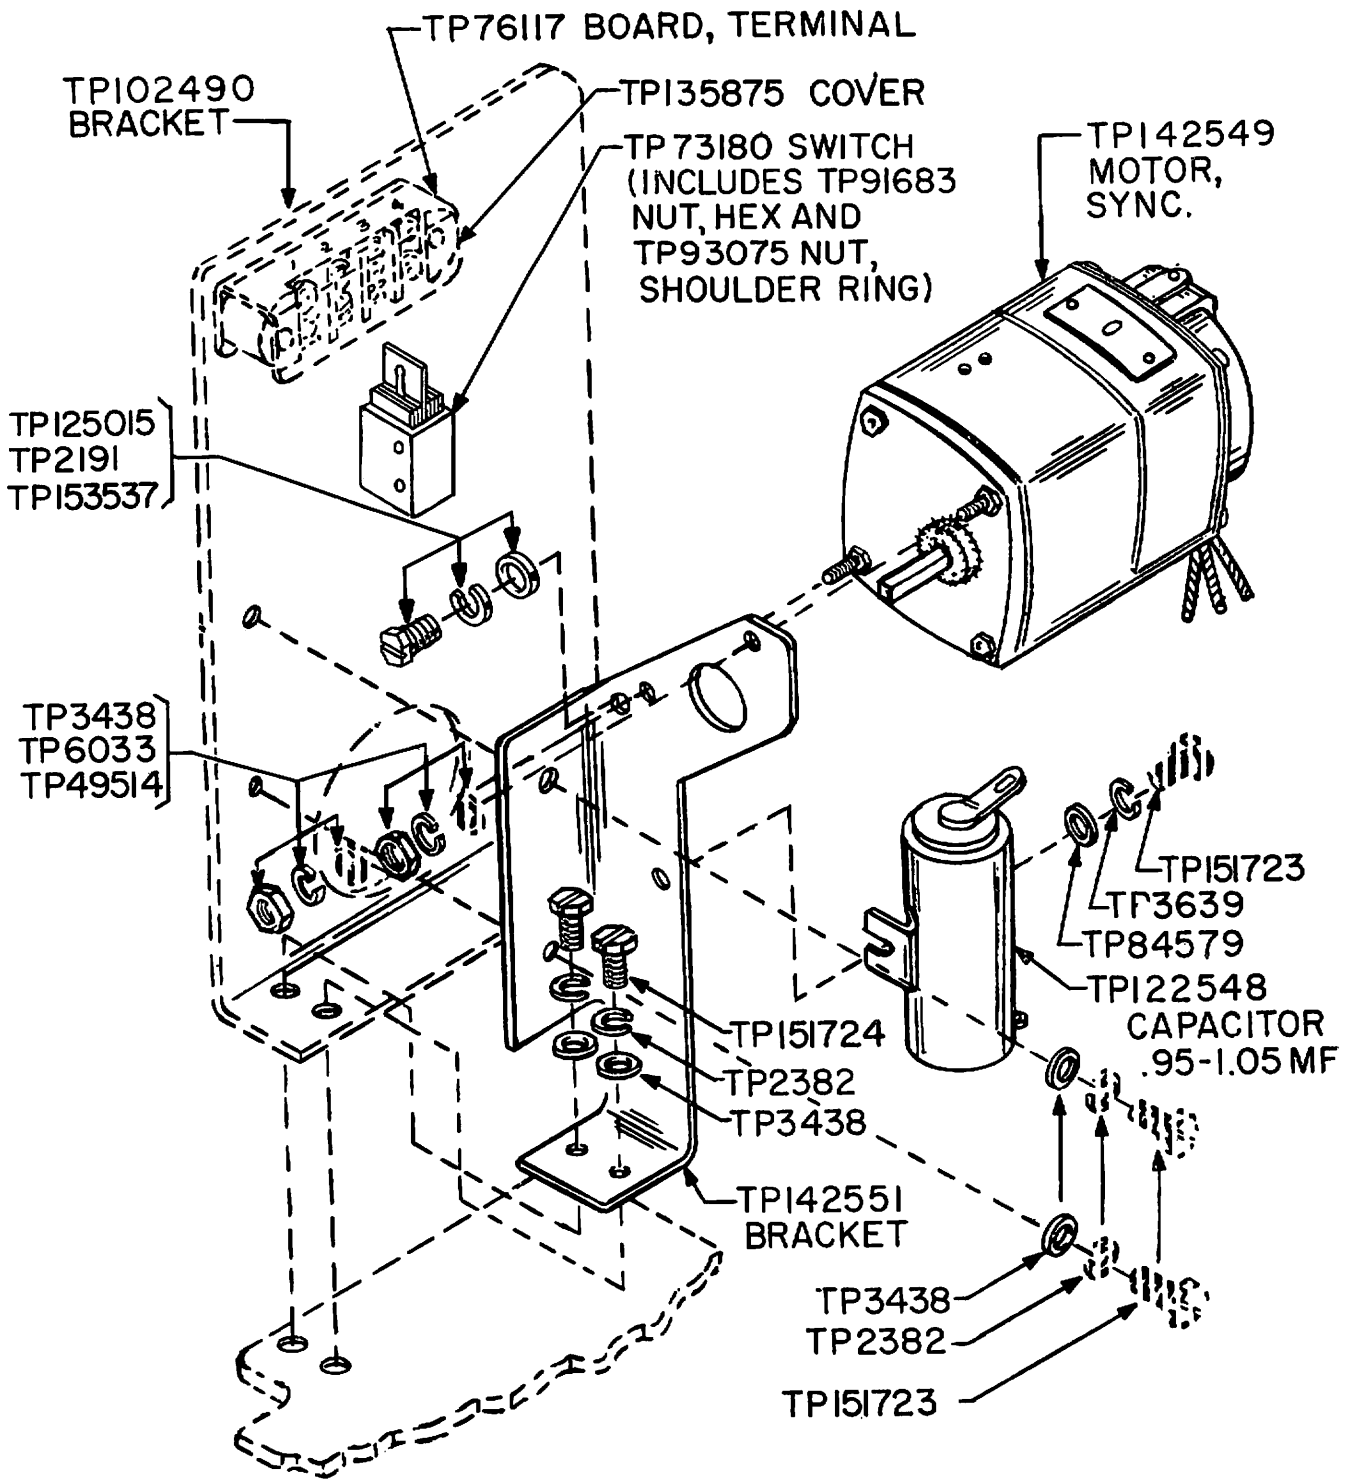

Figure 4 - TP136146 Modification Kit
2.11 TP136146 Modification Kit: To convert paper winders equipped with universal motors (15A through 15D) to operation by synchronous motors (15E or 15F). (See Figures 4 and 5.)